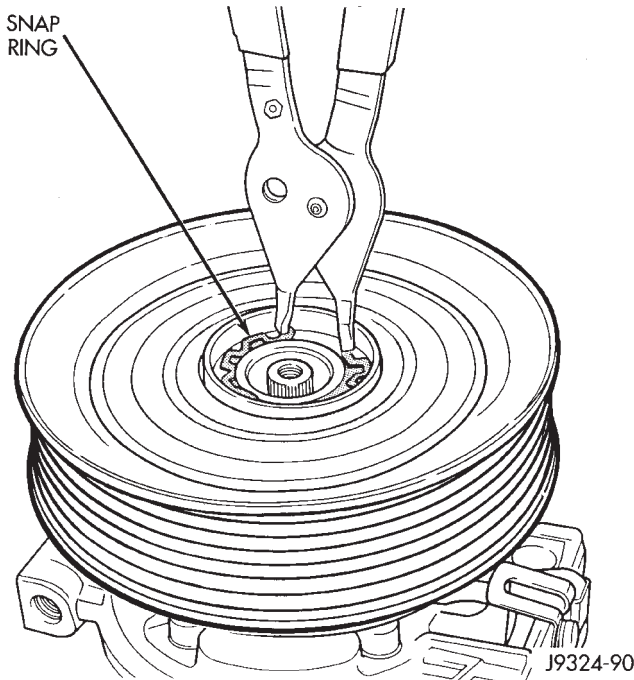

Fig. 8 Pulley Snap Ring Remove/Install
- (4) Remove the pulley retaining snap ring with snap ring pliers (Special Tool C-4574) and slide the pulley assembly off of the compressor (Fig. 8).
- (5) Unplug the clutch coil wire harness connector. Remove the screw and retainer from the clutch coil wire harness on the compressor front housing.